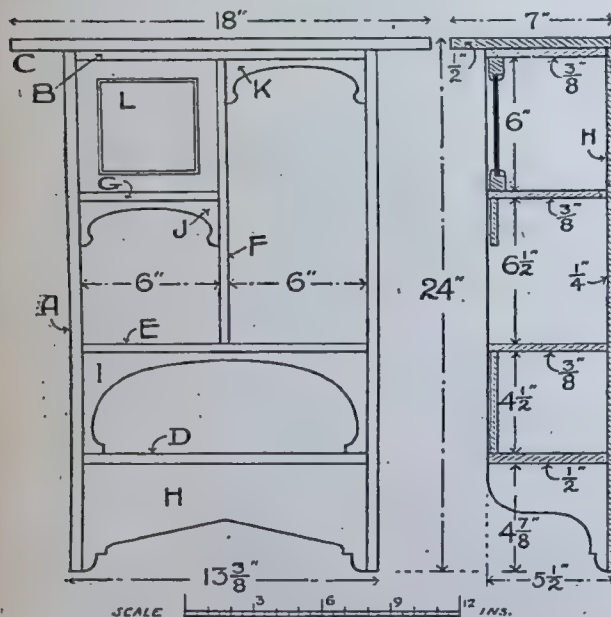

FIG. 2. WALL CABINET. FIG. 3. ELEVATION AND SECTION.
BACK (H).—This may be of $\frac{1}{4}$ in. wood, shaped at the foot as in Fig. 2. The back lies in the rebates cut in the ends, and may be nailed to back edges of shelves, etc.